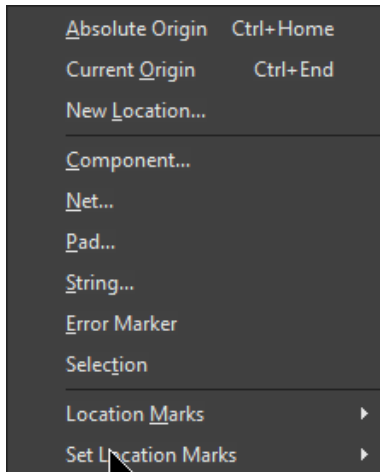

Figure 1. Jump Menu Options
4. Hit the **J** key, to see all the different sub-menus available, see Figure 1.